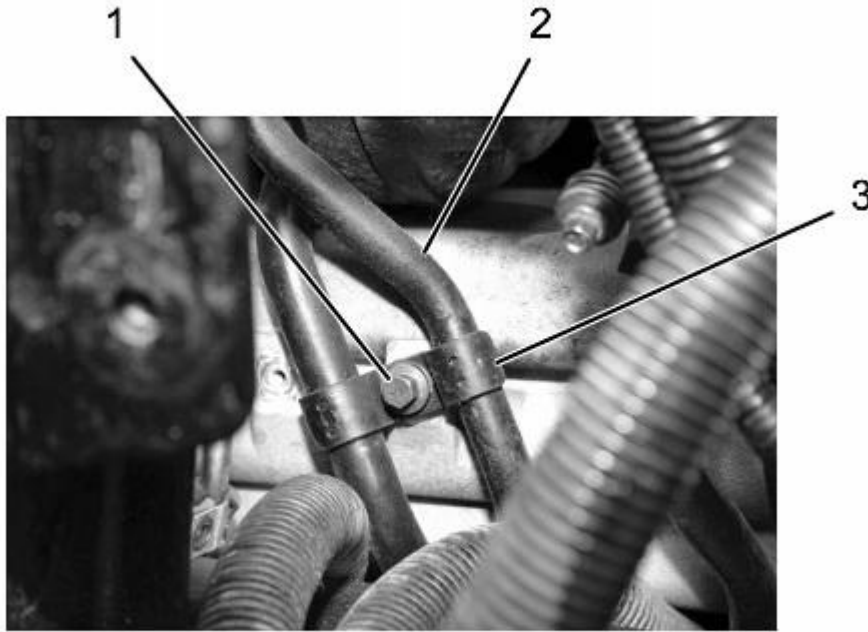

Figure 14. Oil Drain Tube.
10. Install bolt (Figure 14, Item 1) in P-clamp (Figure 14, Item 3) on oil drain tube (Figure 14, Item 2).